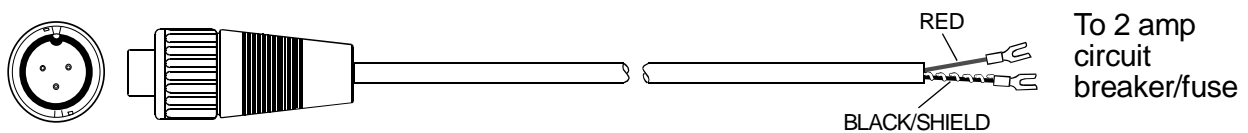

Figure 2: C98-20PW Power Cable
- q Using the wire cutters and wire strippers, prepare the end of the cable as necessary for your installation (**Figure 2**).